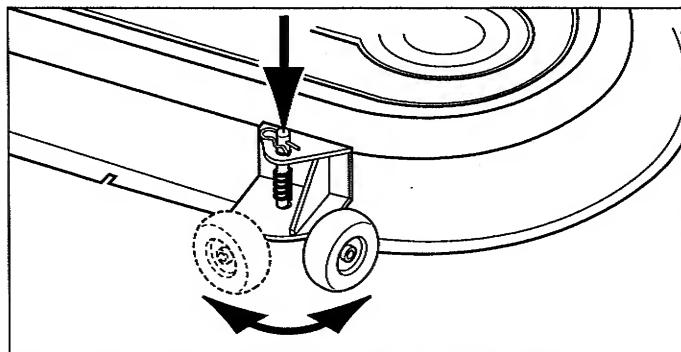

Figure 12. Gauge Wheels - 54" Models Only
1. Fully raise the attachment lift and rotate front gauge wheels (see Figure 12).
6. Raise the attachment lift and rotate the front gauge wheels (Figure 12) into cutting position.